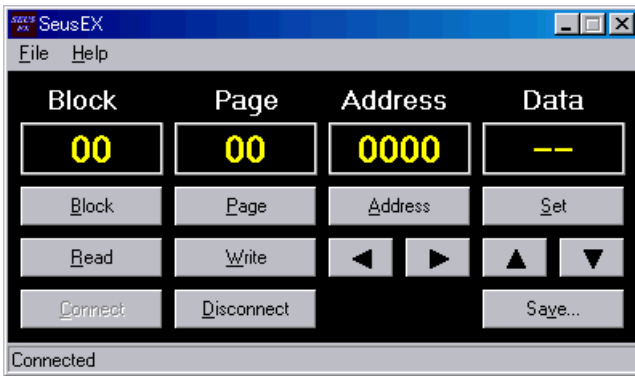

Fig. 6-2-1
- 4) Click **Connect** on the SeusEX screen. If the connection is normal, the SeusEX screen will be as shown in Fig. 6-2-1, indicating the “connected” state.